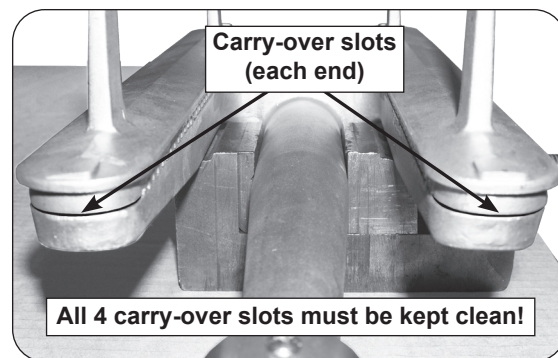

Fig. 5-1 Carry-over slots detail
- Slide saw blade into each of 4 carry-over slots on front and rear of burner, until the slots are open and clear of foreign material (see Fig. 5-1 and Fig. 5-2).